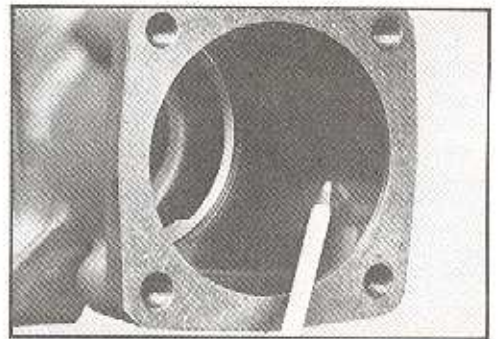

Figure 97
5. Inspect the housing (47) cylinder bore. SEE FIGURE 97. You will probably notice normal scoring marks running lengthwise through the bore. Since this scoring is normal, you should not compare it to the scoring considered detrimental in the cylinder bores of an internal combustion engine. Replace the housing only if you've tested it for internal leakage (as described in the troubleshooting section on page 7) and you've determined that the scoring, and not damaged seals, is responsible for the excessive internal leakage, greater than 1.5 GPM (5.7 liters/min.).